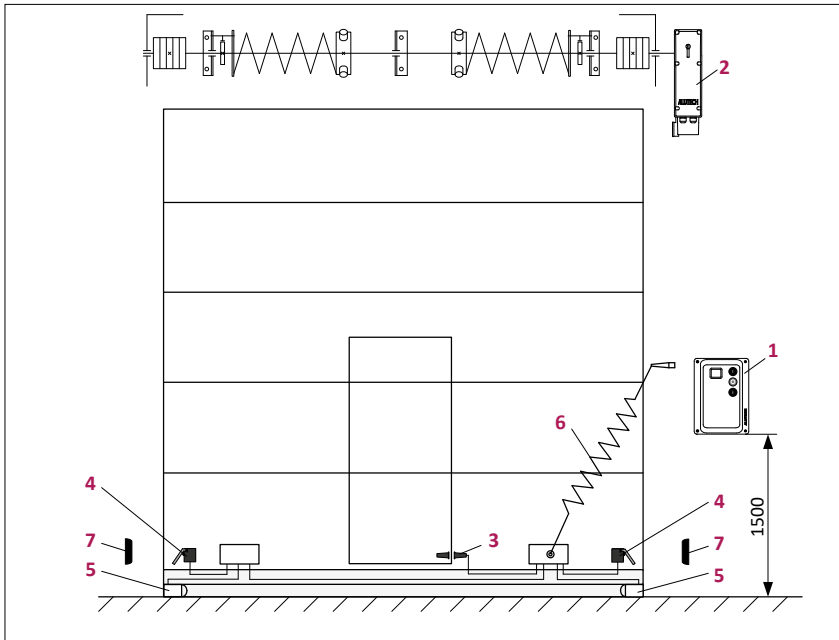

Figure 5
- Determine the place in which each drive system device will be installed. An example of a typical automation circuit of industrial balanced sectional gate with a door — **Figure 5**.